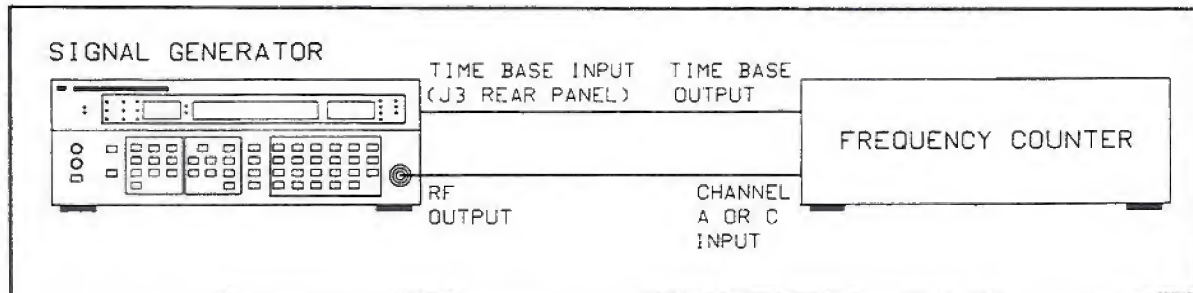

Figure 4-11. DC FM Test Setup
27. Connect the RF OUTPUT from the Signal Generator to the INPUT of the frequency counter, and connect the Signal Generator TIME BASE INPUT to the Frequency counter TIME BASE OUTPUT as shown in Figure 4-11.
Figure 4-11 shows the RF Pulse as displayed on the oscilloscope. The Delta V markers are the approximate 10 and 90% Levels of the pulse envelope. The reading Δt is the Rise Time.